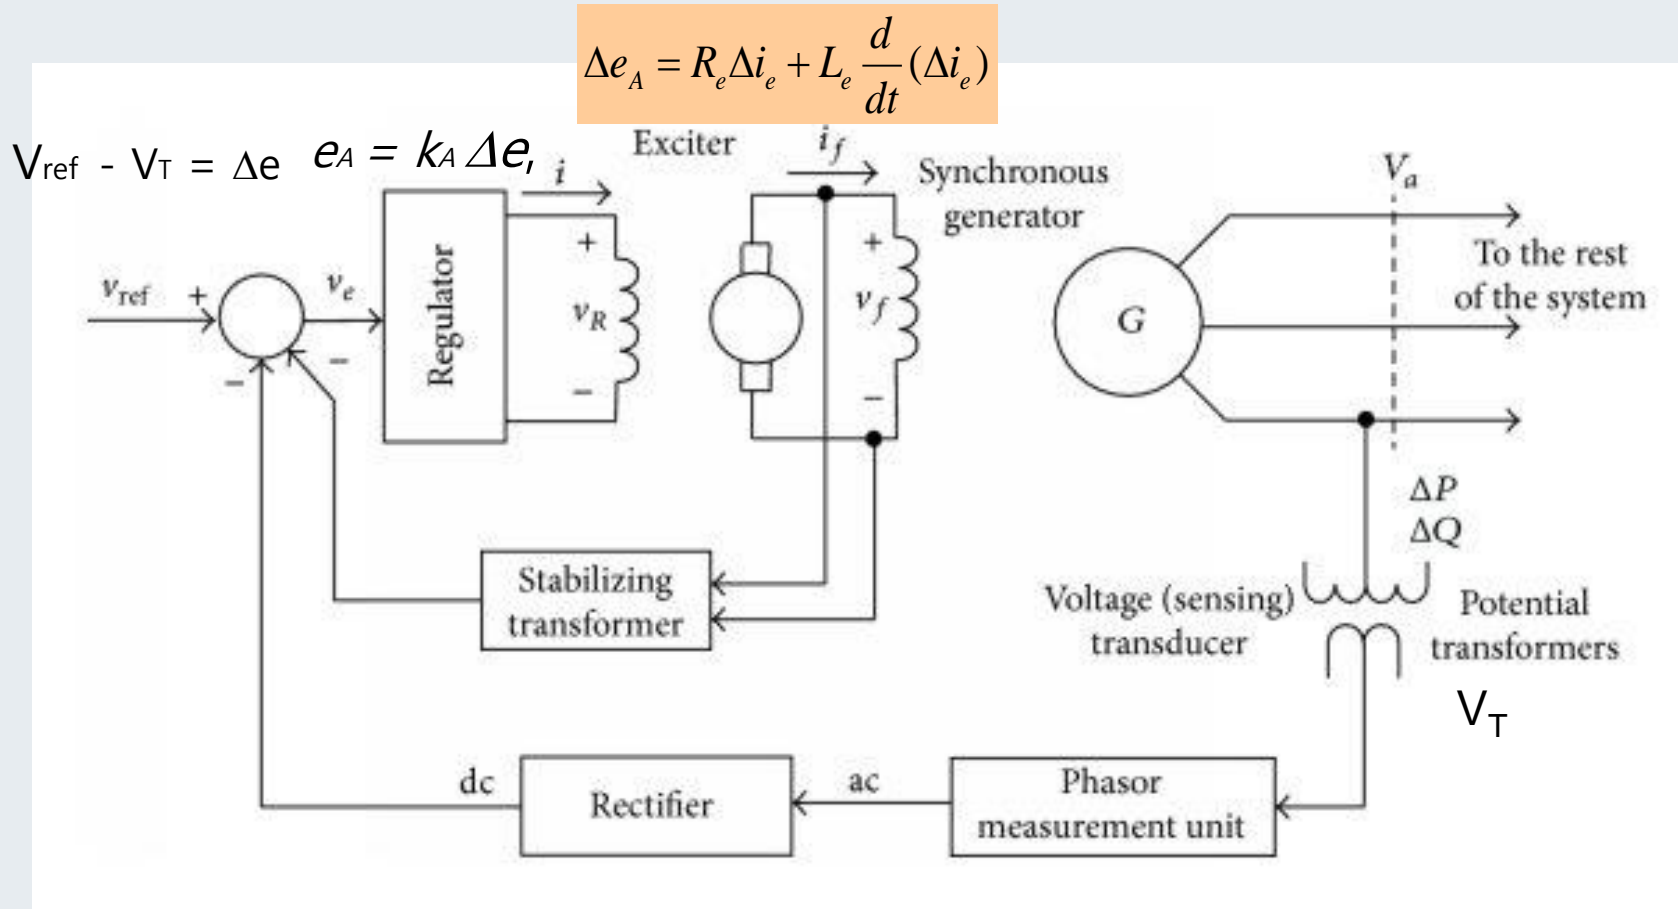

Figure 3. The AVR Voltage excitation system
- To understand how the voltage can be maintained using excitation system, separate the voltage control diagram should be consider as given in Fig.3.